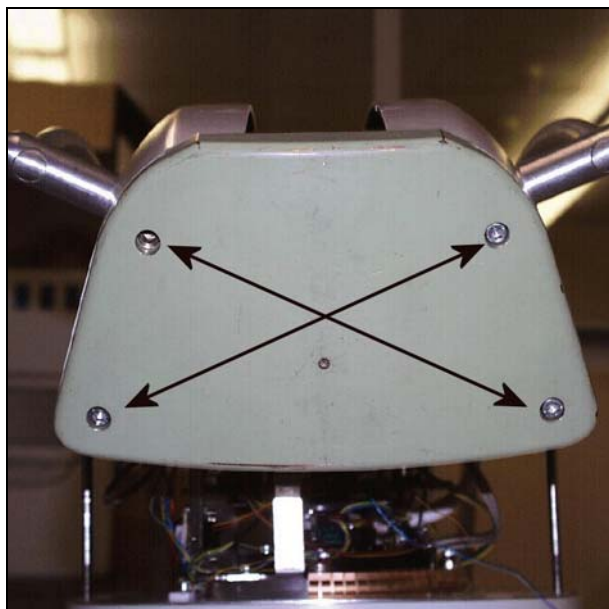

Fig. 23
- Secure the front C-arm cover to the image intensifier side of the C-arm (Fig. 23). When inserting cables make sure that they are not crushed or torn off.